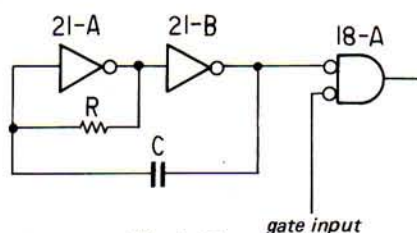

Fig. 1-13
1. Fig. 1-13 shows a controllable oscillator. IC21 is an MOS type of oscillator circuit in which the first stage gate operates as an analog amplifier due to the negative feedback by R and oscillates due to the positive feedback provided by C.